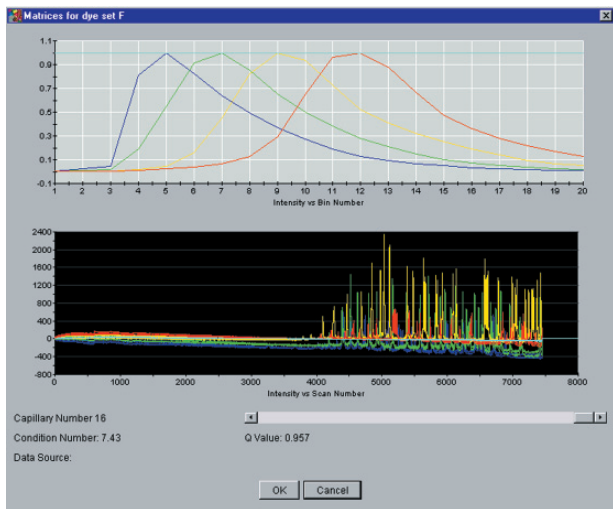

Fig 9. Spectral calibration profile for F using POP-6 with the ABI 3100.
12. Review the calibration profile using the following steps. Open the Data Collection software; select **Override Spectral Calibration** from the **File** menu. A dialog window titled "Select the dye set to display" appears. Select F from the pull down menu (Important). Click **OK**. This action opens the dialog window **Spectral Calibration Profile for F**. The fluorescence emission spectra for all four dyes in a particular capillary is displayed as shown in Figure 9. Examine the results for each cap and verify that it is similar to the one shown in this example and as illustrated on page 4–29 of the ABI 3100 user’s manual. Although, the software assigns values from successful caps to failed caps in some instances, the profile may not be similar to the one shown in the illustration. When this happens, manually replace the values with the data from a successful adjacent matrix.
13. Examine the results for each cap and verify that the profile is similar to that shown in Figure 9.